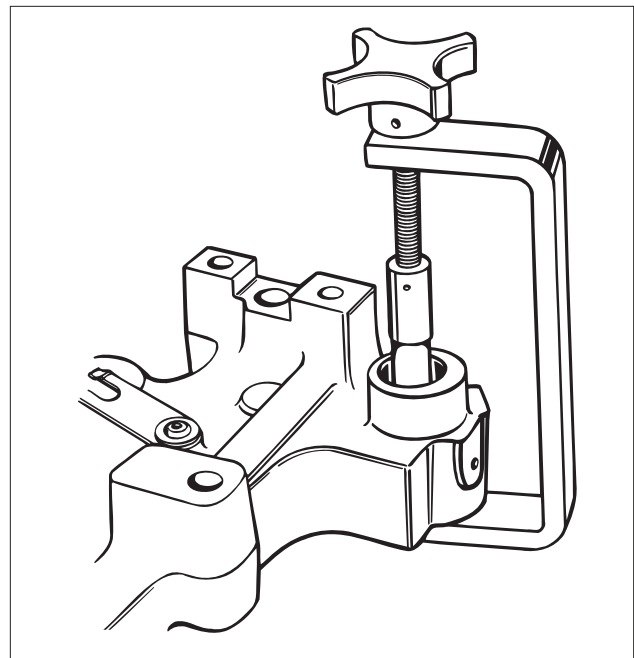

FIG. 40
1. Place the hole in the clamp bracket over the slave piston adjusting screw (Fig. 40).